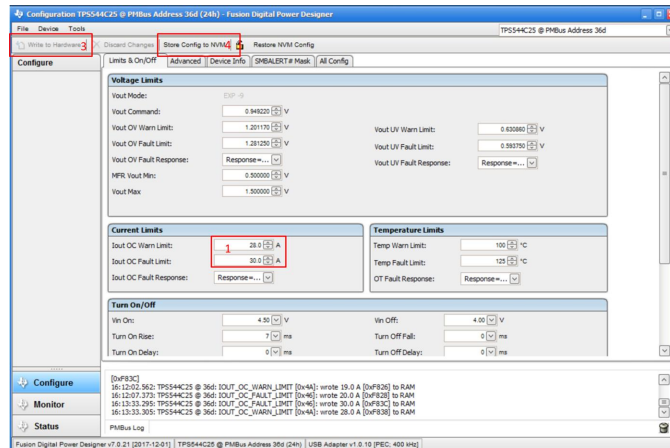

Figure 36. Configuring The Device
1. After launching the Fusion Digital Power GUI, click the Configure button. Change the IOUT\_OC\_WARN\_LIMIT to 28 A and the IOUT\_OC\_FAULT\_LIMIT to 30 A, as shown in Figure 36.